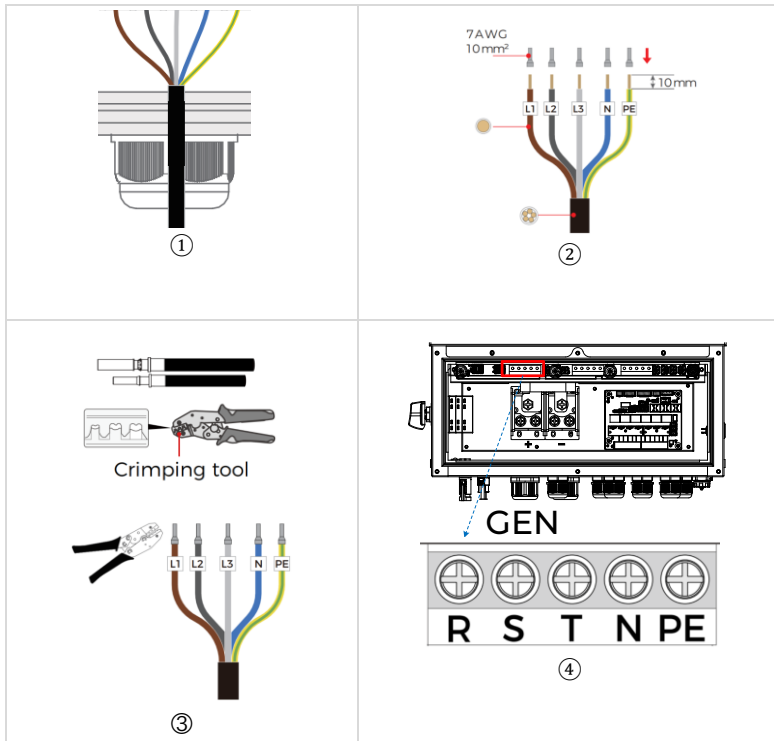

Figure 5-6 Generator connection
Step 2 The prepared cable is inserted through the GEN port as shown in Figure 5-6①.
Step 3 Remove the insulation layer of the cable by using a wire stripper according to the Figure 5-6②.
Step 4 Insert the stripped power cables into the cord end terminals respectively and crimp them by using a crimping tool, as shown in Figure 5-6③.
Step 5 The cables shall be connected to the ports according to R, S, T, N, PE respectively as shown in Figure 5-6④.